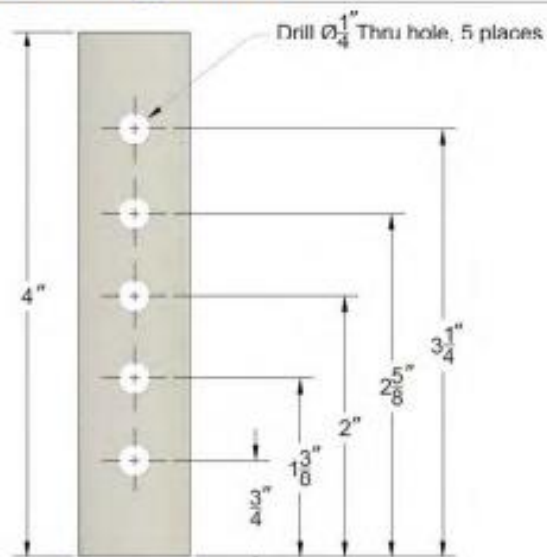

Figure 9
- Hold the ruler parallel to the pipe. Mark the locations of the thruster mounting holes with a straight line along the edge of the ruler to intersect with the hole location marks. (Figure 9)